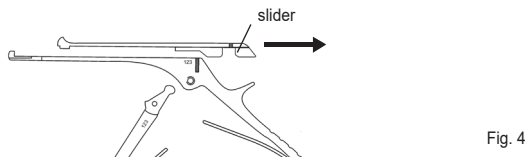

Fig. 4
- Pull the slider backwards out of the guide (fig. 4).